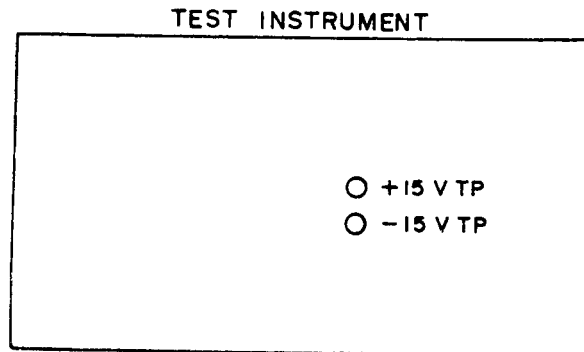

Figure 4. Boonton, model 82AD - bottom view.
- (1) Connect multimeter to +15 V TP (figure 4) and chassis ground, using two leads. If multimeter does not indicate between +14.95 and +15.05 V dc, perform **b** below.
(2) Move lead from +15 V TP and connect to -15 V TP (figure 4). Multimeter will indicate between -14.95 and -15.05 V dc.